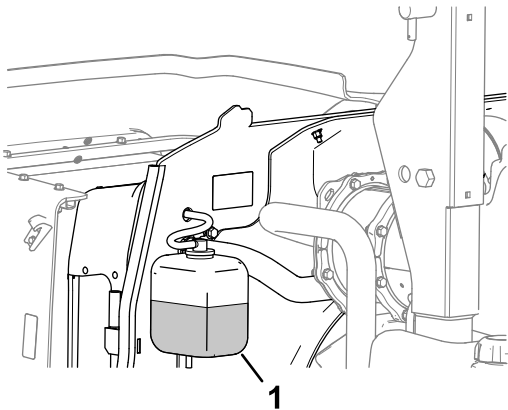

Figure 62
1. Check the level of coolant in the expansion tank (Figure 62).